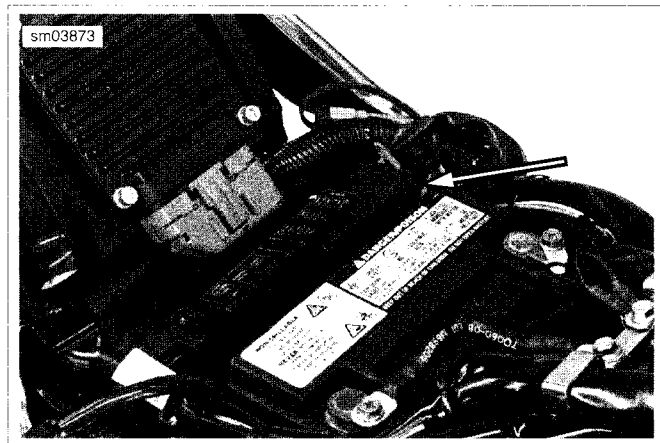
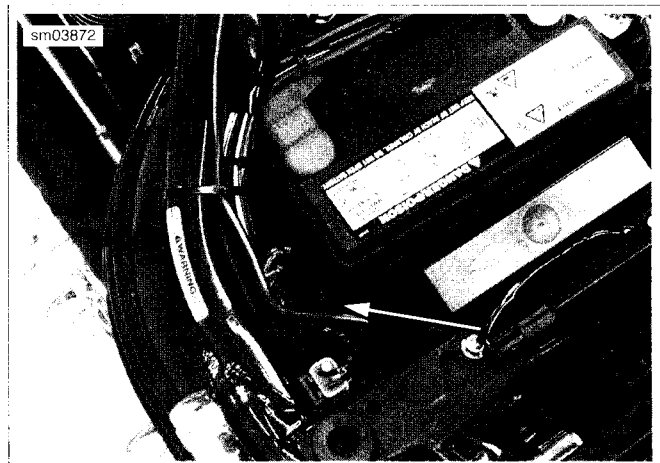

Figure 7-15. Main Fuse Location (All Except FXCWC)
Figure 7-16. Main Fuse Location (FXCWC Only)
2. See Figure 7-15 (all but FXCWC) or Figure 7-16 (FXCWC). Remove main fuse holder from storage position.
2. See Figure 7-15 (all but FXCWC) or Figure 7-16 (FXCWC). Place fuse holder with fuse in proper storage location.